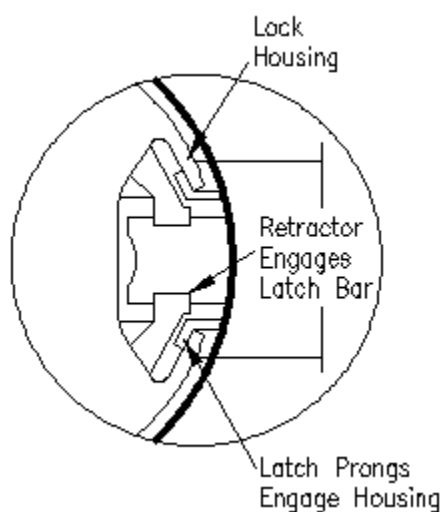

Figure 4.
- Lock body must engage both the latch unit prongs and tail piece (as shown in Figure 4.)